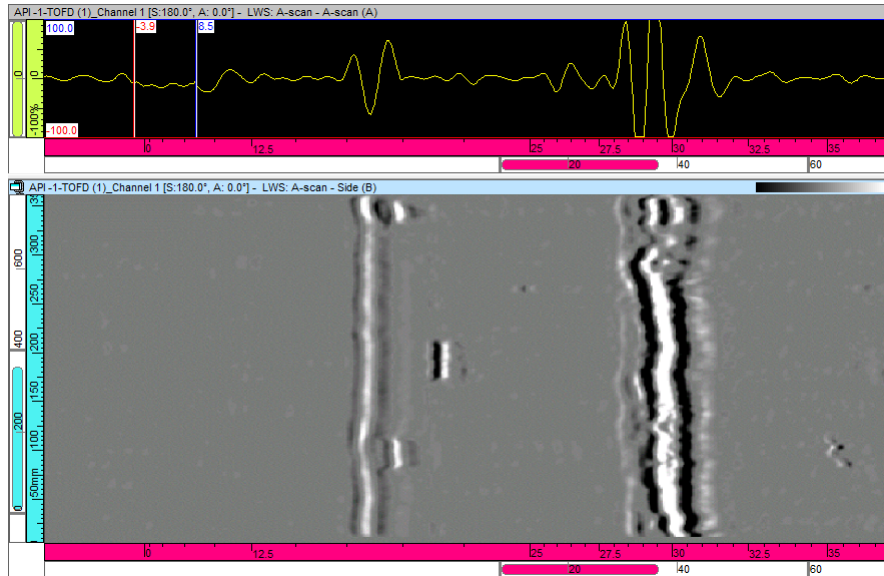

Figure 7-23 Overview of a SAFT ultrasonic image
5. In the menu, select **View > Contents** and display the newly created SAFT. The SAFT algorithm has been applied (see Figure 7-23 on page 363).